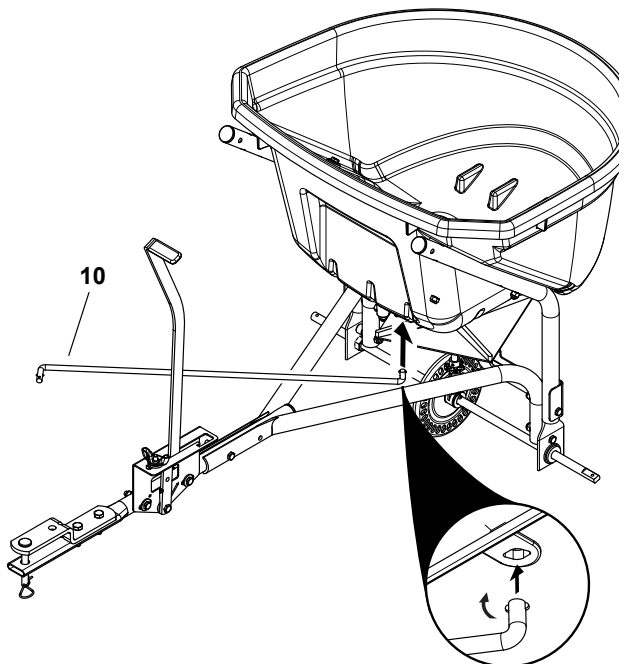

Figure 10
STEP 10: (SEE FIGURE 10)
- Install the end of the flow control rod (10) with no hole into the elongated hole in the flow plate on the bottom of the hopper. Lock the rod in the flow plate by rotating the rod.